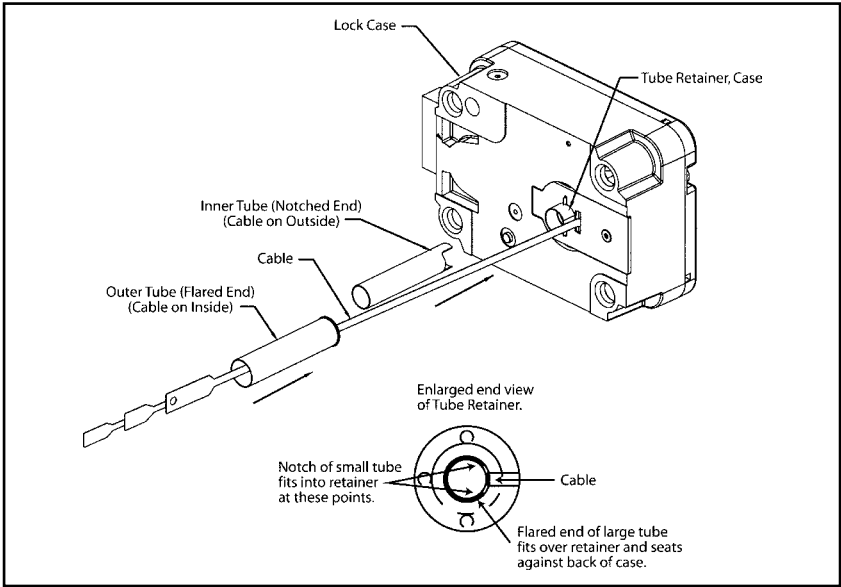

Figure 4 - Tube-Cable Assembly Relationships
- Feed the cables through the outer tube from the flared end. Seat the tube into position on the tube retainer on the back of the lock case. (See Figure 4.) Be careful to keep the cables pulled taut while seating the tube to avoid pinching and damaging them.